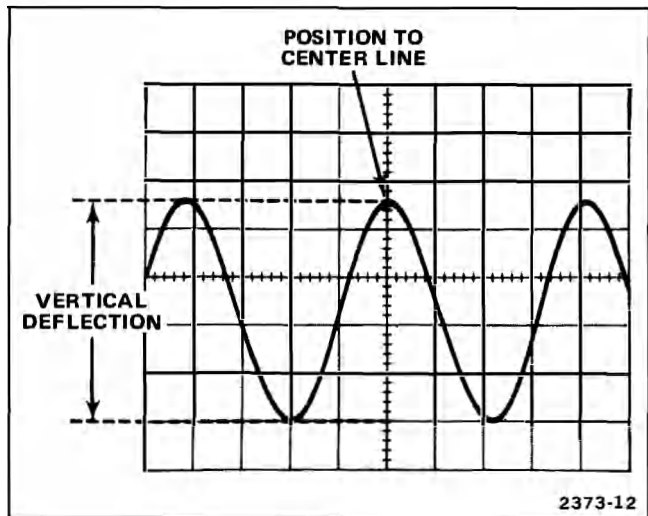

Fig. 12. Measuring peak-to-peak voltage of a waveform.
5. Turn vertical POSITION control so lower portion of waveform coincides with one of the graticule lines below center horizontal line, and top of the waveform is in the viewing area. Move display with horizontal POSITION control, so one of the upper peaks aligns with center vertical graticule line (see Fig. 12).
EXAMPLE: Assume a peak-to-peak vertical deflection of 4.6 divisions (see Fig. 12) and a VOLTS/DIV switch setting of 5. Using the formula (assuming use of 1X probe or cable):